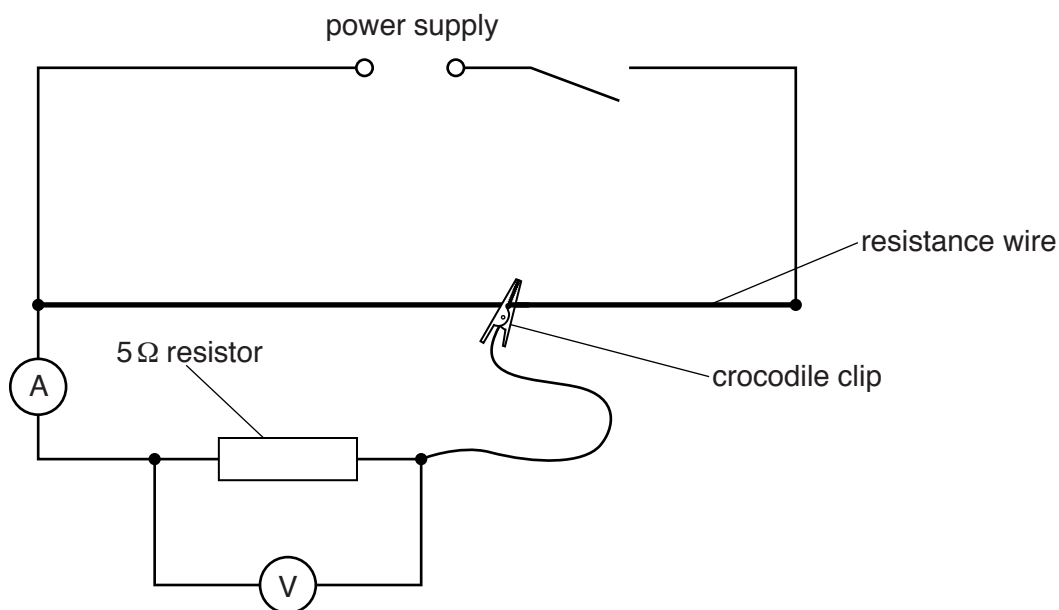

Fig. 2.1
- (vi) Sufficient connecting leads to set up the circuit shown in Fig. 2.1.
2. The circuit is to be set up for candidates as shown in Fig. 2.1, with the crocodile clip connected to the resistance wire. The position of the crocodile clip is not important.
Ensure that the circuit is connected as shown in Fig. 2.1 and check that the circuit is working. Switch the circuit off.